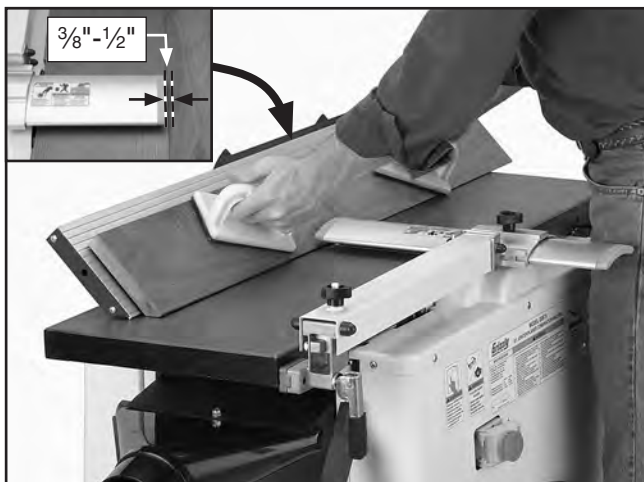

Figure 37. Bevel cutting operation.
The purpose of bevel cutting is to cut a specific angle into the edge of a workpiece (see **Figures 37 & 38**).
4. Make sure your fence is set to the angle of your desired cut, adjust the blade guard $\frac{3}{8}$ " to $\frac{1}{2}$ " away from the workpiece (see **Figure 37**), then tighten the blade guard lock knob.